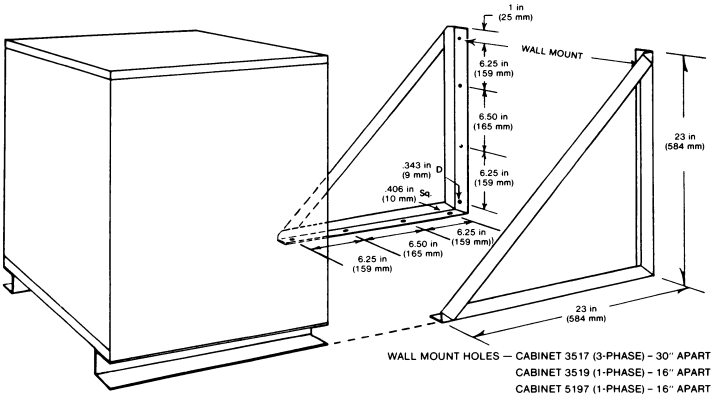

FIGURE 6.3-Wall mounting brackets
**Wall mounting bracket:** C&D offers wall mounting brackets as a user-installed option. See Figure 6.3 for dimensions.